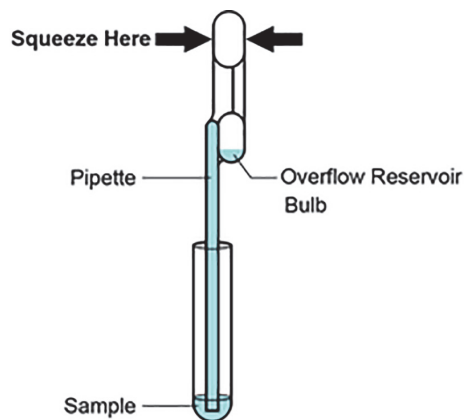

Figure 27. Transfer Pipette
- Squeeze the top bulb of the transfer pipette **completely until the bulb is fully flat**. While continuing to hold the bulb fully flat, place the pipette tip in the specimen transport tube (see Figure 27).
- Keeping the pipette below the surface of the liquid, release the top bulb of the pipette slowly to fill the pipette before removing from the tube. It is okay if liquid goes into the overflow reservoir (see Figure 27). Check that the pipette does not contain bubbles.